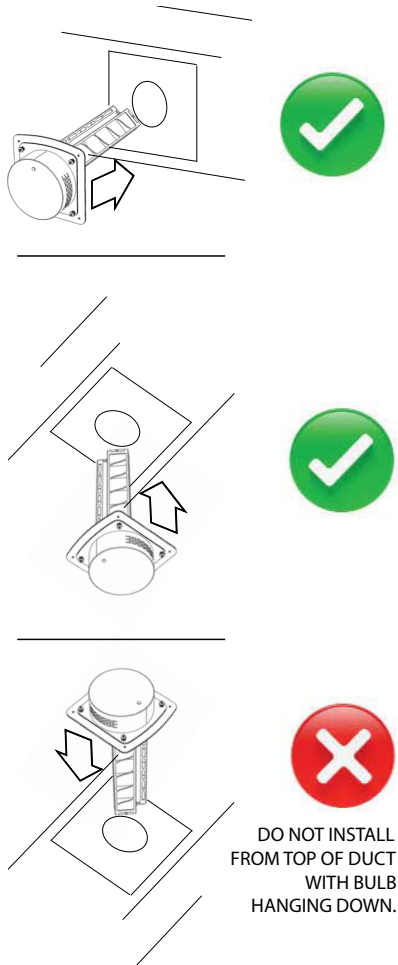

Fig. 6 – Duct Opening with Plate
The device can be oriented in any direction to airflow. It is recommended to orient the UV lamp to shine toward the desired area of maximum UV coverage. The unit can be rotated for vertical or horizontal flow (see Fig. 3 and Fig. 6).
3. Mark location for 5" opening using the included mounting plate as a template (Fig. 6).